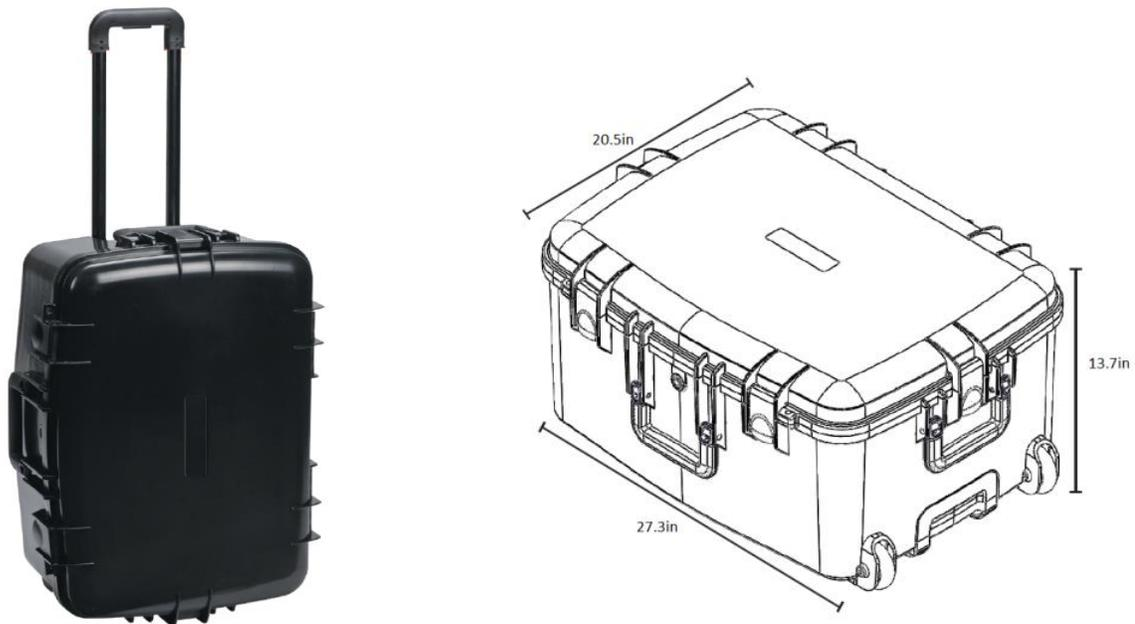

Figure 6 Optional Travel / Shipping Case
1. Ruggedized shipping case Barfield P/N 194-00073 see drawing in Figure 6.